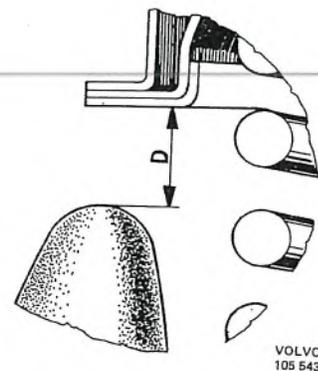

Fig. 6-31. Installing position
5. Fit the bolt (3). Make sure that the smallest washer (1) is placed nearest the bolt head.
6. Fit the large washer (5) and the nut (6), which must not be tightened.
7. Lower the jack and place it under the control arm at the outer edge of the spring. Carefully jack up until the distance (D, Fig. 6-31) between the top of the rubber buffer and the front axle member is approx. 40 mm (1 1/2"). Tighten the nut (6) in this position.
The distance (D, Fig. 6-31) between the top of the rubber buffer and the front axle member should be approx. 40 mm (1 1/2") when tightening the nut (6). After fitting, check and if necessary adjust the wheel angles, see under "Wheel alignment".